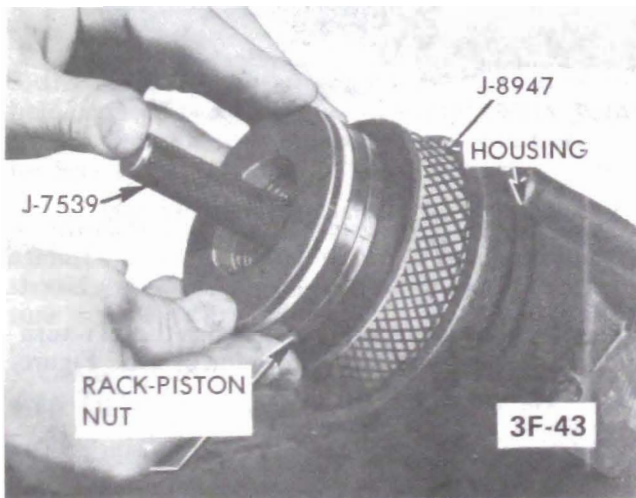

Figure 3F-29 - Installing Rack Piston
- c. With Ball Retainer J-7539 in place in the rack-piston, push the rack-piston (with teeth toward pitman shaft opening), into the housing until Tool J-7539 contacts the center of worm. Figure 3F-29.